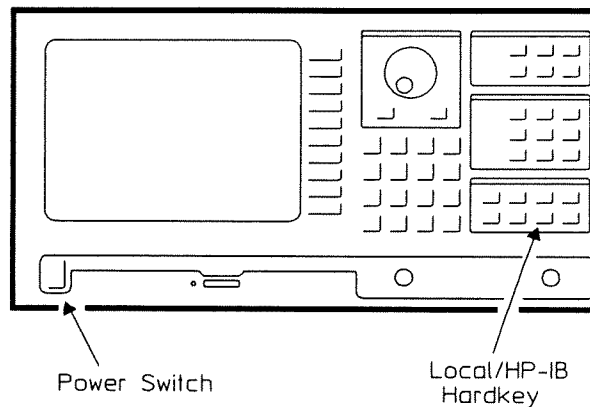

Figure 1-3. HP 3588A Front Panel
3. Turn on the HP 3588A. When the softkey labels appear, press the [**Local/HP-IB**] hardkey. (see figure 1-3)